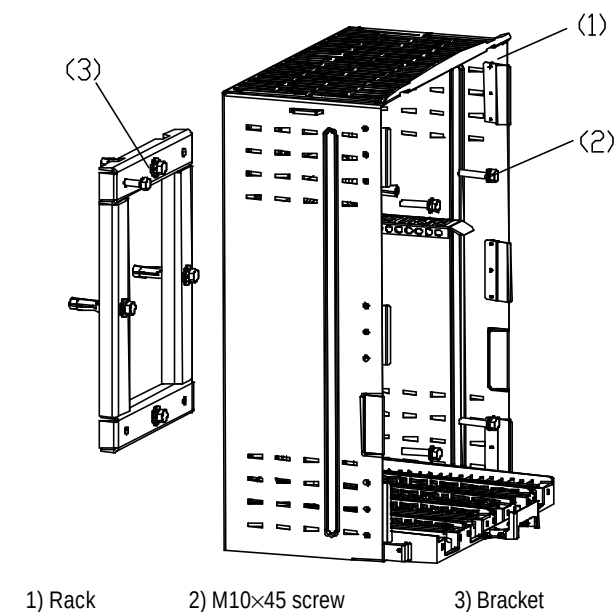

Figure 2-14 Installing rack onto wall
- 2) Starting from the inside of the rack, secure the two screws at the upper part of the rack, then the two at the lower part, as shown in Figure 2-14.